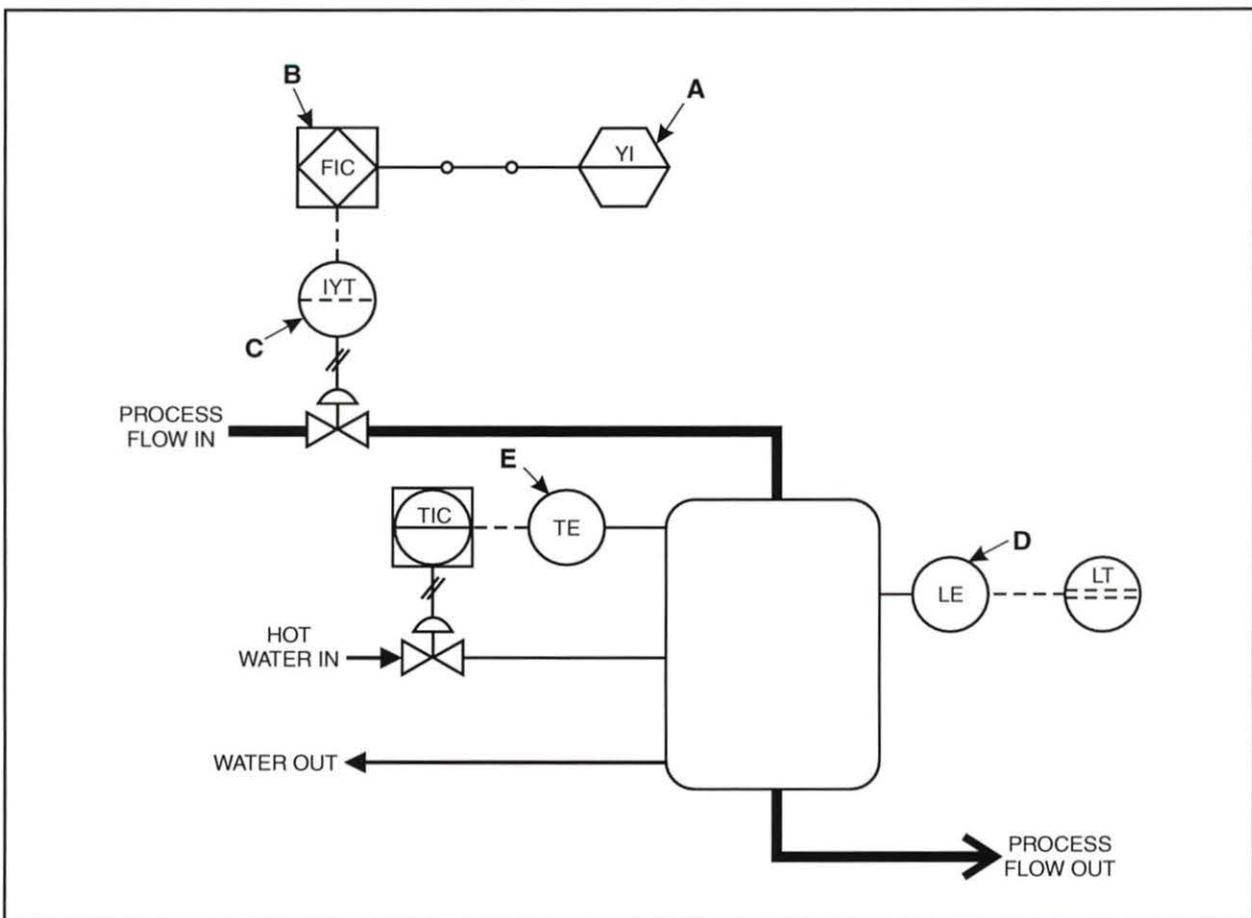

Figure 58. Instrument Tag
- 16. Determine the measured variable indicated by each tag identified in figure 58.